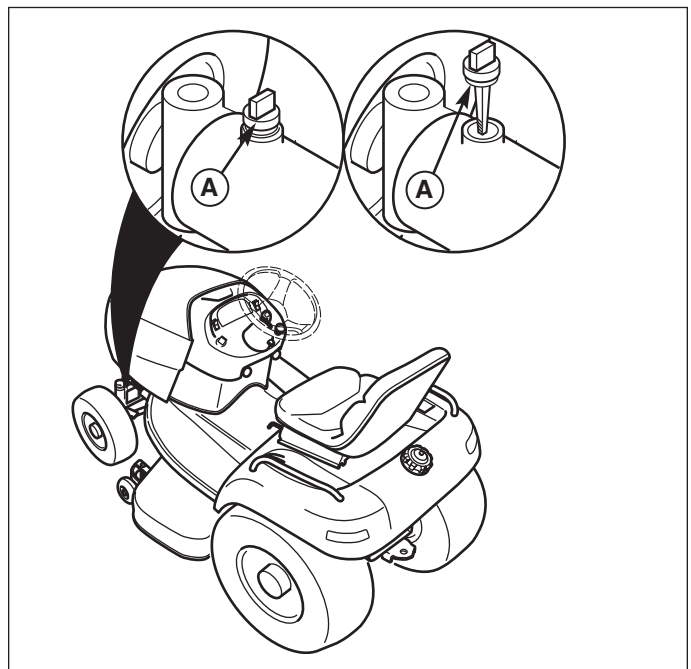

Figure 27. Front Axle Lube
1. Clean the area around the front axle dip stick (A, Figure 27).